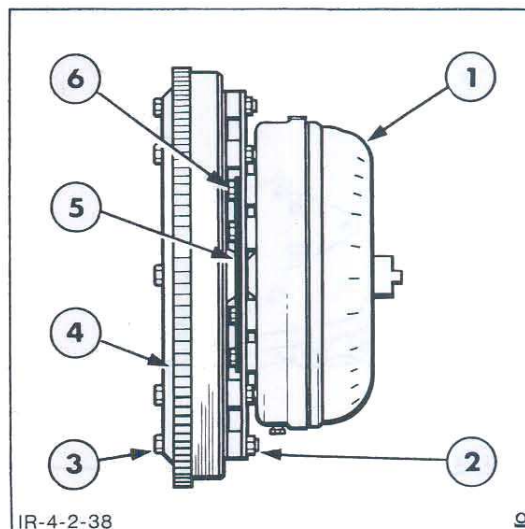

Figure 38
1. Remove the torque converter and drive plate from the stator support, Figure 38.